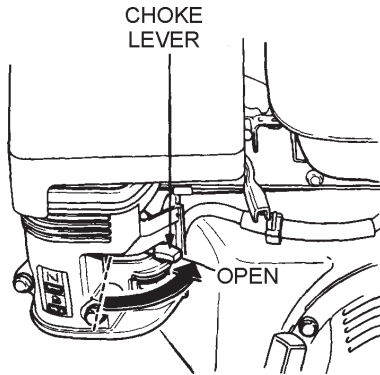

Figure 17. Engine Choke Lever (Open)
- Place the **choke lever** (Figure 17) in the “**OPEN**” position if starting a cold engine.